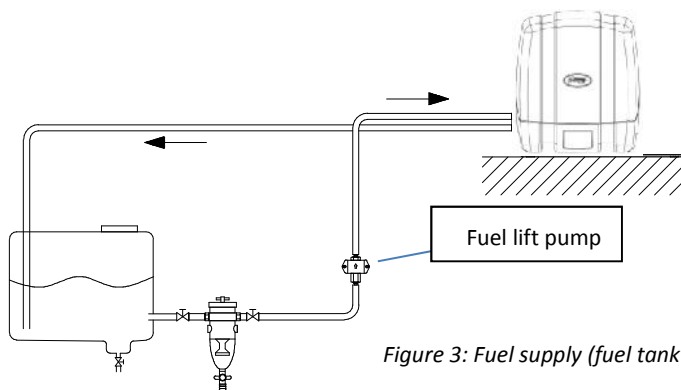

Figure 3: Fuel supply (fuel tank is below the Genverter)
Apart from the machine fuel pump, the generating set is supplied with a separate fuel lift pump; therefore the tank can be installed at a lower level than the generating set (see Figure 3). The maximum suction height is 1 m.
When the return is on the top - in case of a leakage the return line cannot overflow because of siphoning. One will only need a fuel cock in the fuel supply line. When the tank is below the generating set (Figure 3) we recommend ending the return line on the bottom of the tank (A) below the inlet of the supply line. In this way the fuel cannot drain back into the tank when the engine is stopped; as the return line will not let air in. This prevents starting trouble caused by air in the fuel supply line.